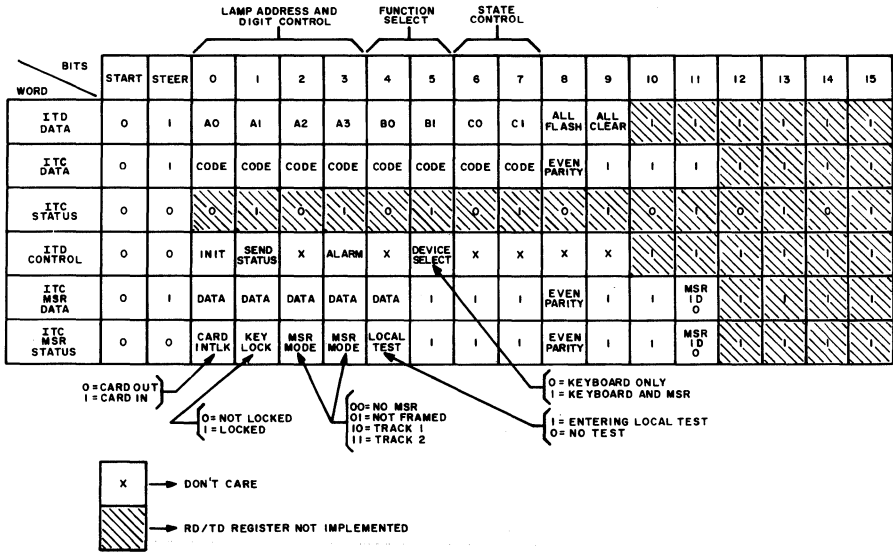

Fig. 10—Status Word SSI Bits
4.07 In controller to keyboard operation, the controller requests status by sending an Information To Device (ITD) control word, see Fig. 10. With bit 1 marking and bit 5 spacing, the keyboard will send an Information To Controller (ITC) status reply. If bit 1 and 5 are both marking, the keyboard and the magnetic stripe reader (MSR) will both reply. The MSR status word will precede the keyboard status word by 4 to 10 milliseconds.